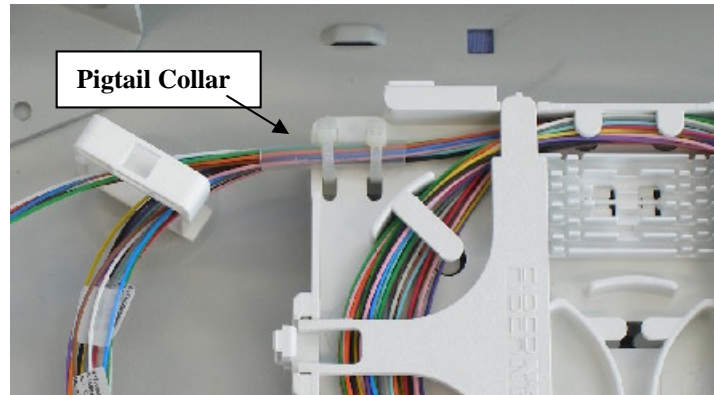

Figure 14. Pigtail collar secured with two cable ties
- f) Using the two supplied cable ties, align and secure the pigtail collar onto the splice tray entry point position, see Figure 14.